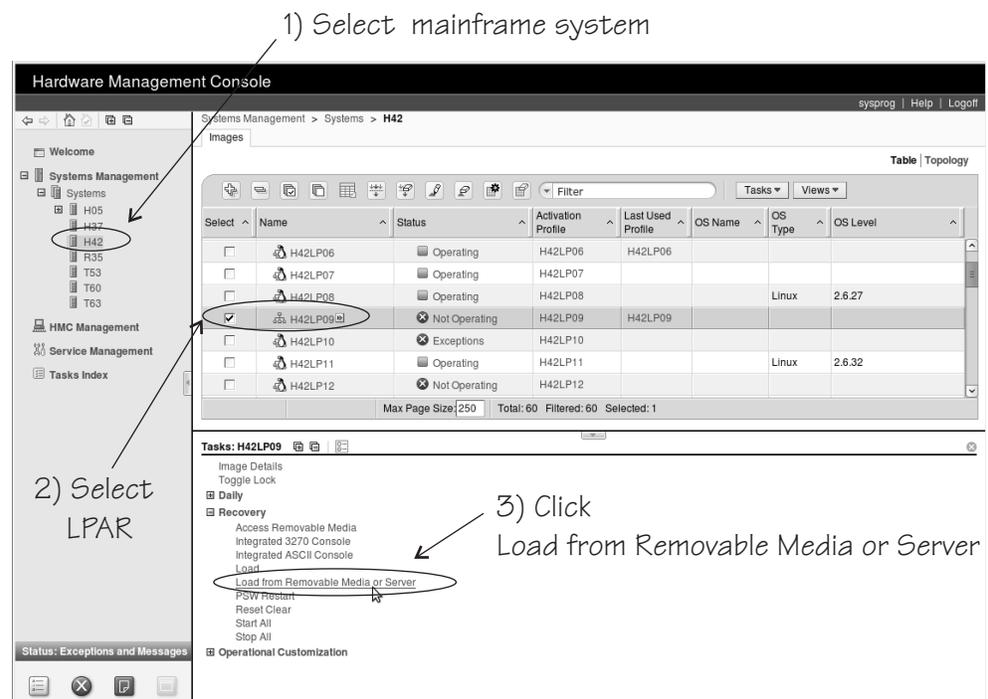

Figure 66. Load from Removable Media or Server task on the HMC
3. In the **Tasks** area, expand **Recovery** and click **Load from Removable Media or Server** (see Figure 66).